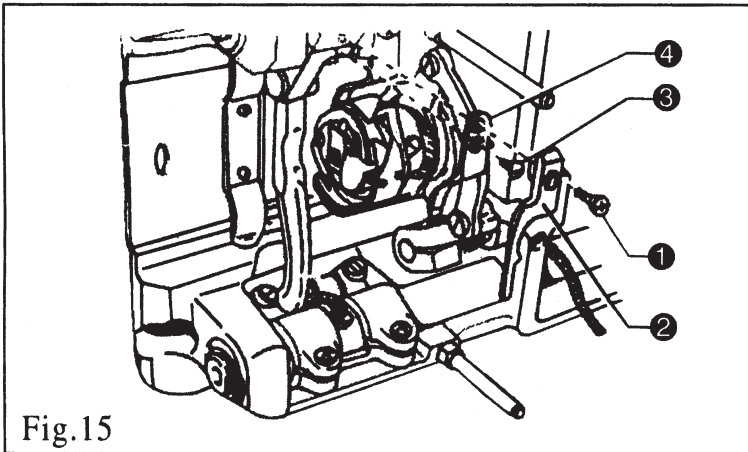
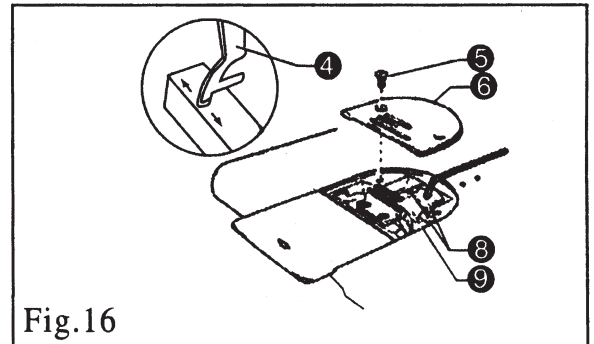
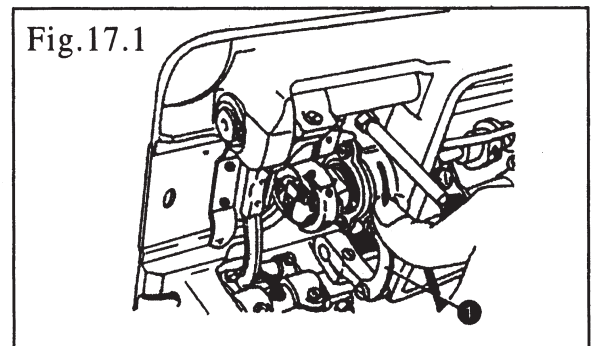

Fig.15
Fig.16
Fig.17.1
- 2) Tighten locknut① to fix the thread stand.
- 3) For ceiling wiring, pass the power cord through spool rest rod②
13.1 REPLACE THE COUNTER KNIFE AND MOVING KNIFE(FIG15,FIG16,FIG17.1)
- 2).Take down the screw ① and positioning finger ②
- 3).take down the screw ③ and counter knife ④ (Fig.16)